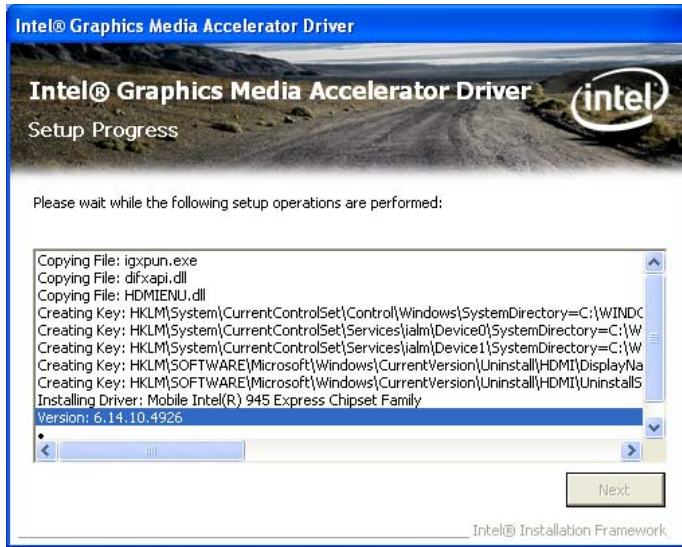

Figure 6-13: VGA Driver Setup Operations
Step 13: **Setup Operations** are performed as shown in Figure 6-13.